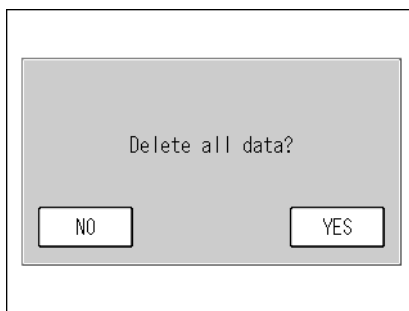

Fig. 55 Message confirming data deletion
- [DELETE]: Displays the message confirming data deletion (Fig. 55 on page 43).